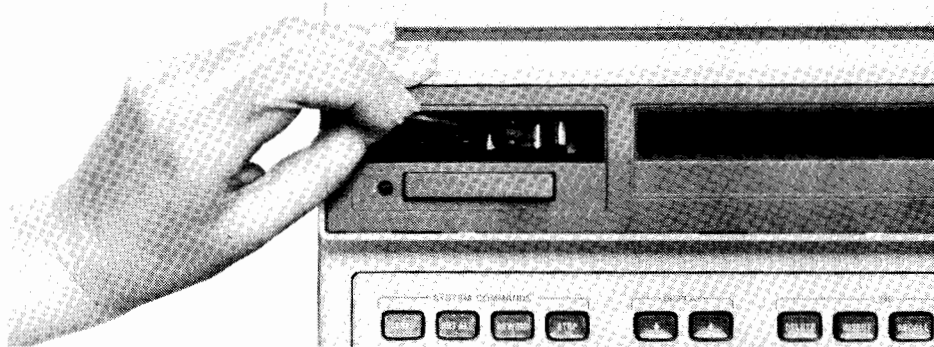

Figure 1-6 Cleaning the Tape Head
2. Clean the tape head with a cotton swab that has been dampened with head cleaning solution (see Figure 1-6).